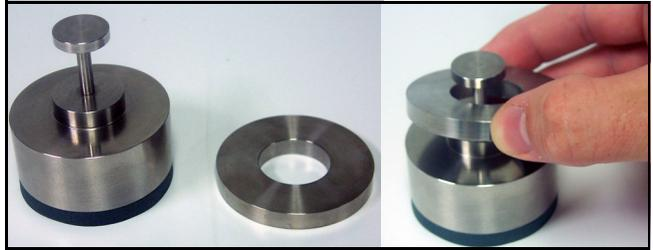

FIGURE 5-42 Additional mass being placed on AEC100 weight
Step 6 Assemble the additional mass ring over the handle of the AEC100 mass (FIGURE 5-42)